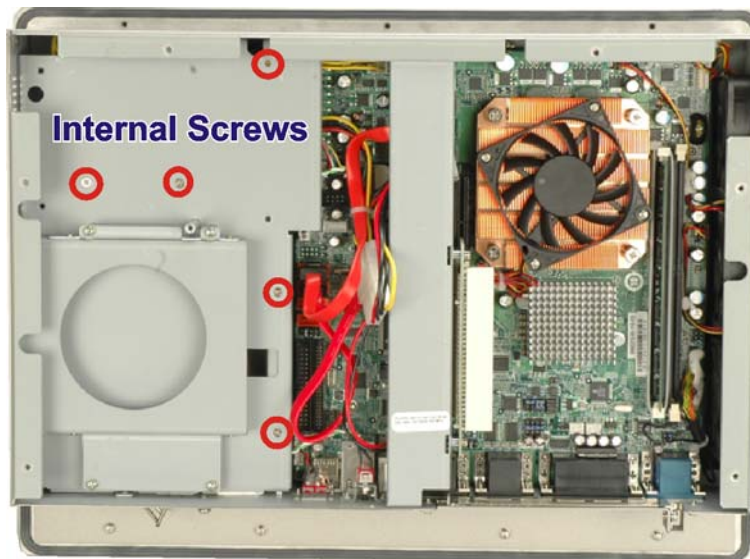

Figure 7-5: Internal Elevated Platform Screws
Step 4: Unfasten the internal elevated platform screws (**Figure 7-5**).